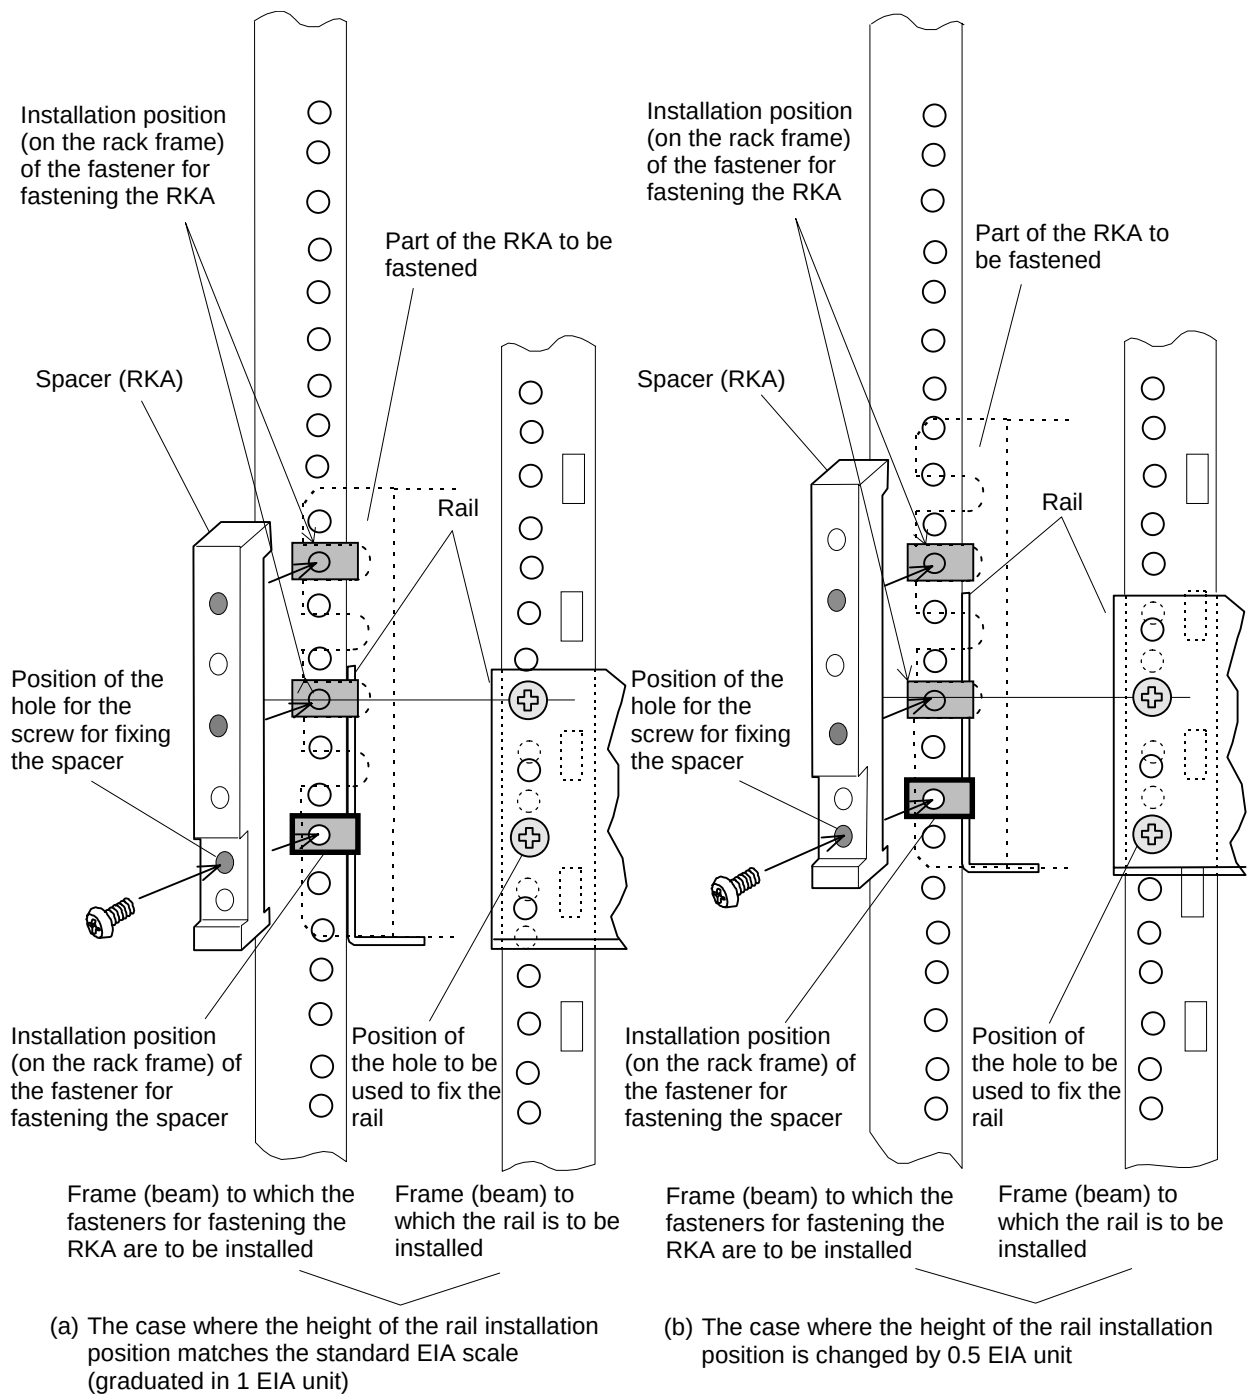

**Figure 7.9.5 Installation Positions of Fasteners and Relation with Rails
- Fit the three fasteners to each of the right and left beams on the front side of the rack frame referring to Figures 7.9.5.
- Fix the spacer with binding screws (M5×32) at the position specified by the fasteners referring to Figures 7.9.5. The spacers for the RK and for the RKA are different from each other. Install the spacer which suits the subsystem to be mounted.